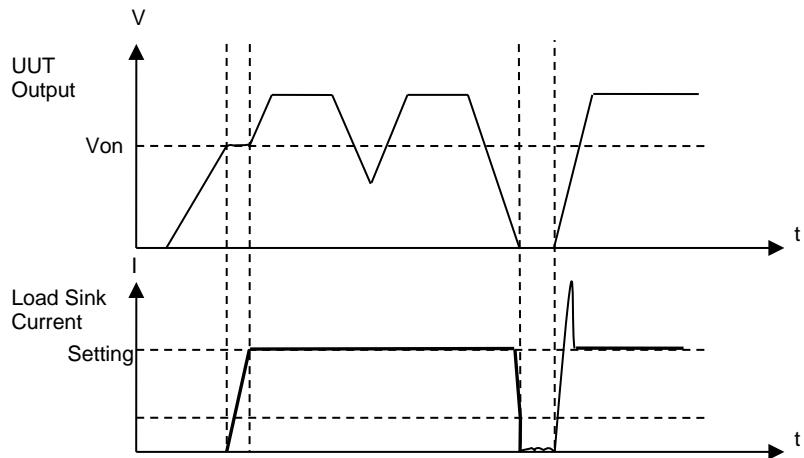

Figure 3-27 When Von Point is not set to 0V without Protection
- (4) When the Von Point is not set to 0V and the LVP sets no protection during “LOAD ON”, turn off the SW after it is turned off a period of time and then turn the SW off again. Current loading continues when there is no power as shown in Figure 3-27. Current overshoot may occur when the SW is off with power input. It could damage the UUT and Electronic Load under this circumstance.